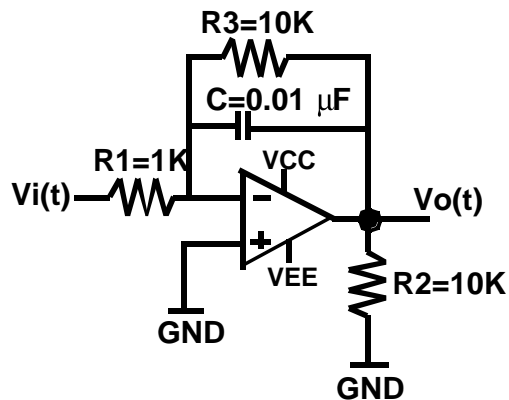

Figure 5. A low-pass filter.
For the circuit in Figure 5 with power supplies $V_{CC} = 12\text{ V}$, $V_{EE} = -12\text{ V}$, assume the opamp is ideal. The input signal is:
1. Build the circuit in Figure 5 with power supplies ± 12 V. Use a sine wave of amplitude 100 mV as an input signal (see item 2 below for frequency) and display both the input and output signals on the oscilloscope (2 to 3 complete cycles).